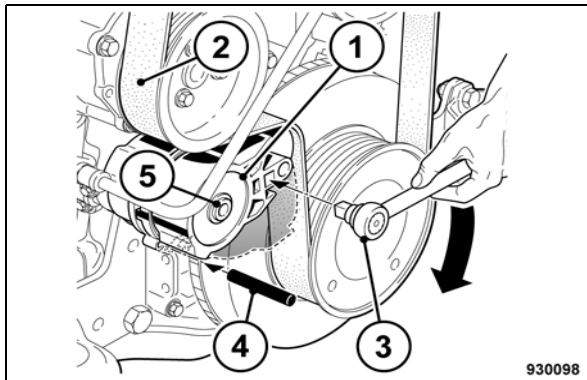

Fig. 179
- Press idler pulley (1) (Fig. 179) in direction of arrow using a socket wrench (3), until the locking pin (4) engages in the assembly bore.
- Take the ribbed V-belt (2) first off the smallest pulley.
- Unscrew fastening screws (5) and take off idler pulley.